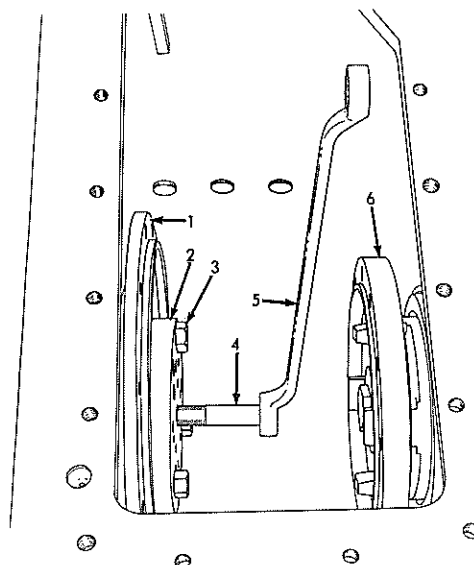

Fig. 9 Pulling Brake Drum Hub (T-41409)
1. Unlock brake drum hub retaining capscrow Fig. 1 (18); loosen capscrow and back it out approximately 1/8". Use tools similar to those shown in Fig. 9, pull brake drum hub until it is loose on shaft. Remove puller tools, retaining capscrow, locking washer, hub retaining washer seal, and brake drum hub from the steering clutch compartment.